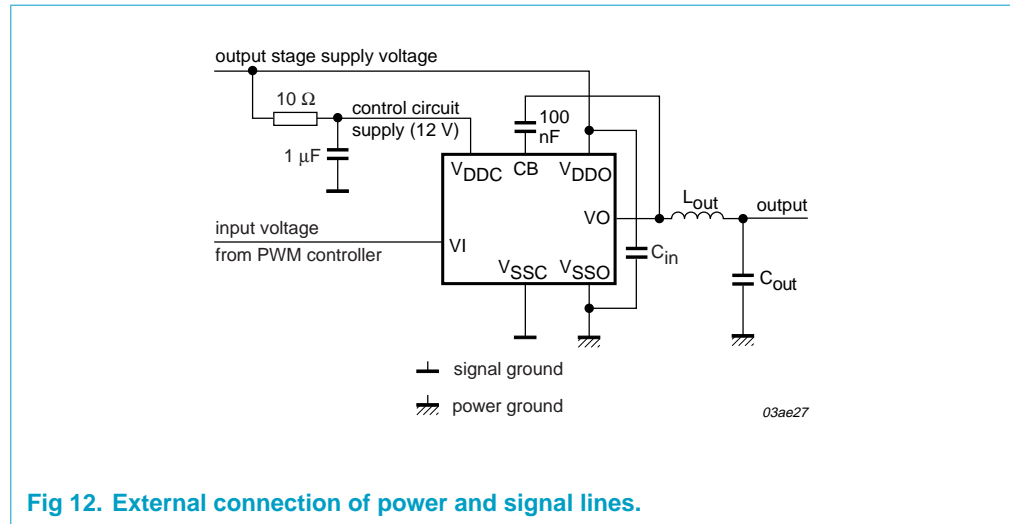

Fig 12. External connection of power and signal lines.
To protect the control circuit from the transient voltages, the following precautions must be taken. Refer to Figure 12.
2. The control circuit supply must be filtered using a resistor-capacitor (RC) filter. The values shown in Figure 12 are suitable for most applications.